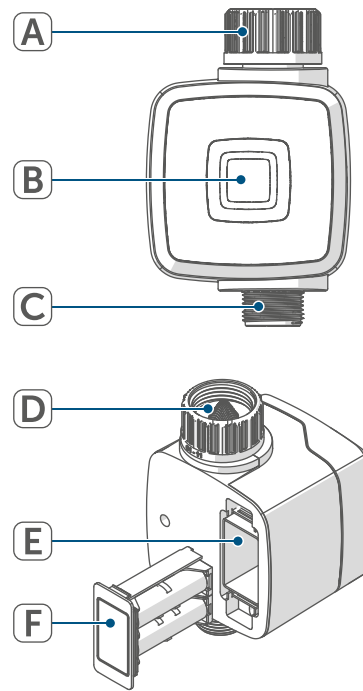

Figure 2
- Press and hold the system button for 4 seconds (Fig. 2) and insert the battery at the same time. Pay attention to the correct polarity marking